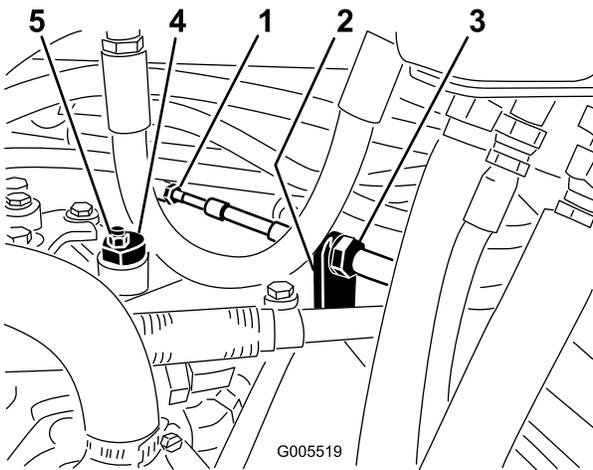

Figure 52
- A. Loosen both jam nuts securing the traction control cable to the bulkhead on the hydrostat (Figure 52). Make sure the jam nuts are loosened equally and sufficiently to allow adjustment.
Note: Loosen the nut securing the eccentric to the top of the hydrostat (Figure 52).
- C. Rotate the eccentric until creep does not occur in either direction. When the wheel stops rotating, tighten the nut locking the eccentric and the adjustment (Figure 52). Verify the adjustment with the throttle in the Slow and Fast position.
- D. From each side of the bulkhead, tighten the locknuts evenly, securing the traction cable to the bulkhead (Figure 52). Do not twist the cable.